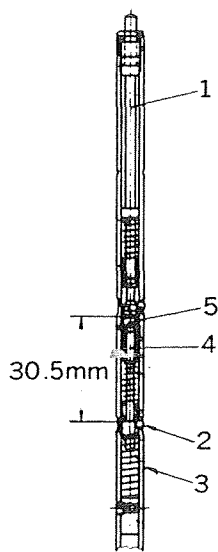

FIG. 46
TIMING ADJUSTMENT OF THE LOWER STEEL BALL (Fig. 46)
Turning the handwheel, confirm whether the needle bar motion is not smooth due to projection of the lower steel ball (2) Fig. 46 out of the outside diameter of the needle bar (3).